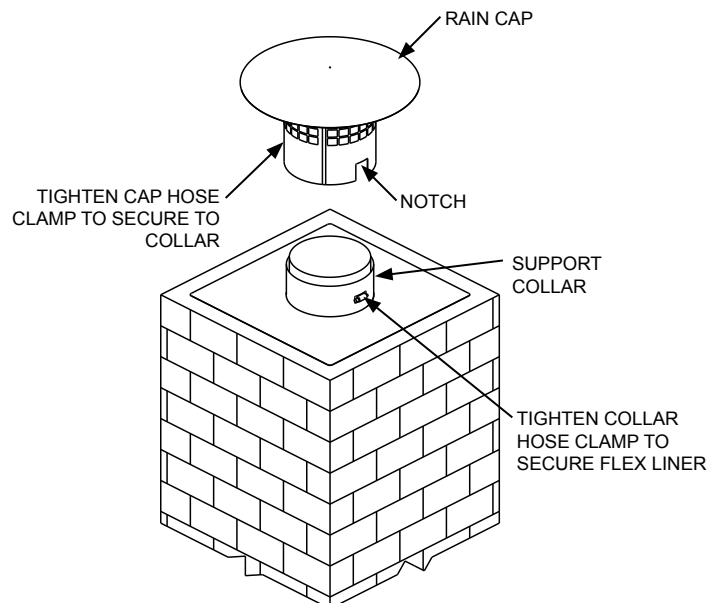

FIG. 16
- Step 3:** Attach the flex liner to support collar using collar hose clamp and secure by tightening (See FIG. 16).
- Step 4:** Slide Rain Cap over support collar so that the notch is centered over the collar hose clamp screw. Secure cap to collar by tightening the cap hose clamp screw (See FIG. 16).